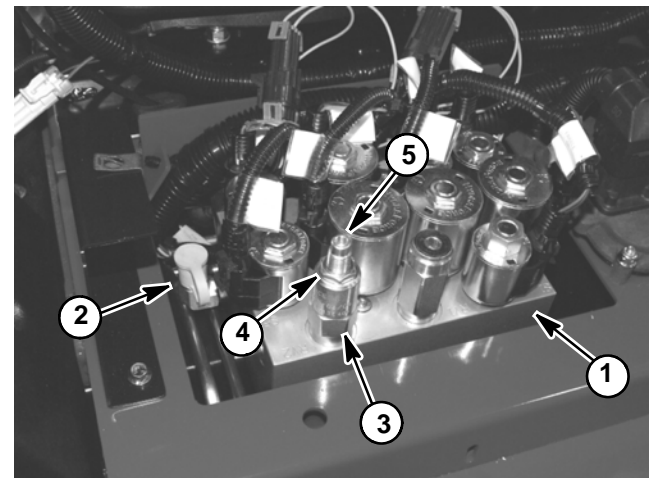

Figure 31
5. Connect a 1000 PSI (70 bar) pressure gauge to counterbalance test port G2 on lift/lower manifold (Fig. 31).
- A. Loosen lock nut on counterbalance valve (Fig. 31).